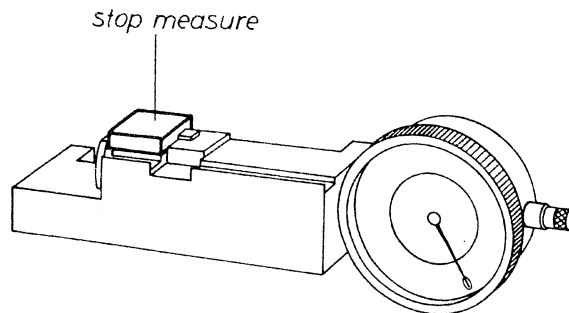

Fig. 32.1
- 2.1 In the case of cameras without Prüf to Prüf 14 set the dial of the dial gauge for the test equipment 08-27.30 Z1 A11 according to the stop measure (12.00) at zero (0) (see Fig. 32.1).